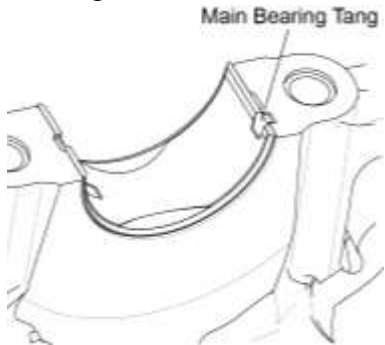

Figure 65
- A. Install crankshaft bearings Nos. 2, 3, and 4 in the crankcase halves. Make sure the tangs are seated in the lock slots (Figures 65 and 66).